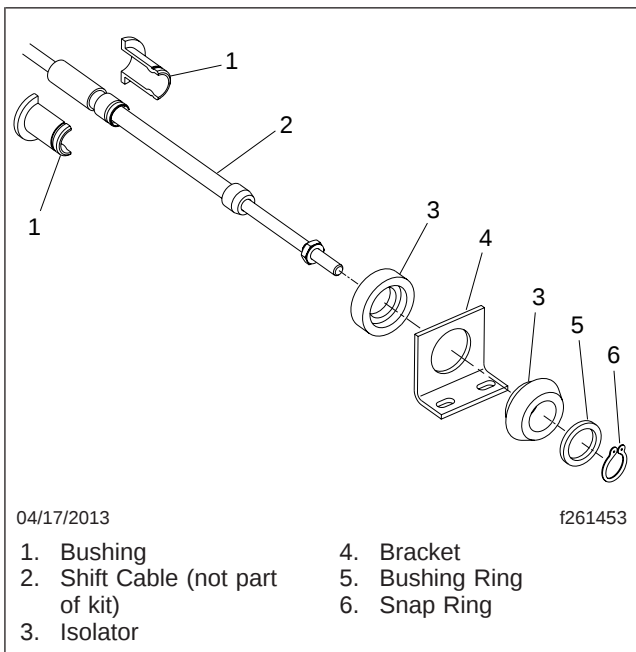
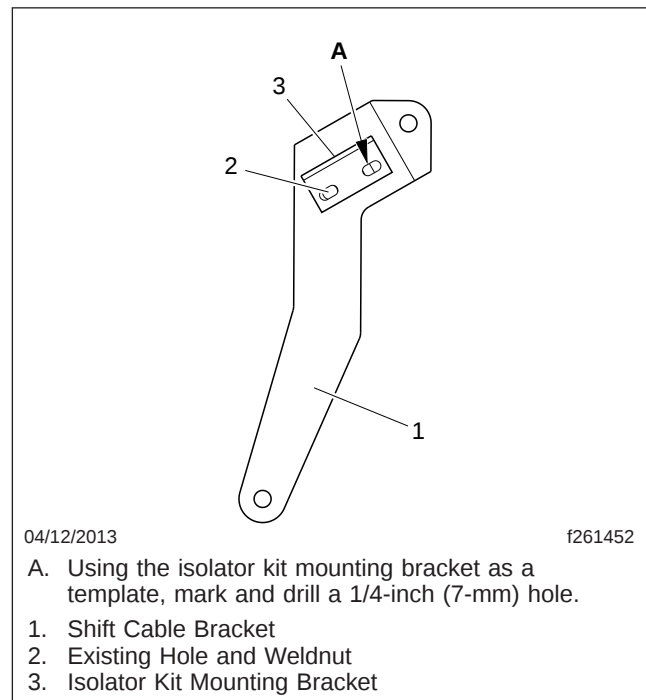

Fig. 2, Isolator Kit KPP 294201
Fig. 3, Locating Isolator Kit Bracket Holes
6. Using the isolator kit mounting bracket (Fig. 2, item 4) as a template, with one hole positioned over the existing hole in the cable bracket, mark and drill a 1/4-inch (7-mm) hole in the cable bracket, as shown in Fig. 3.